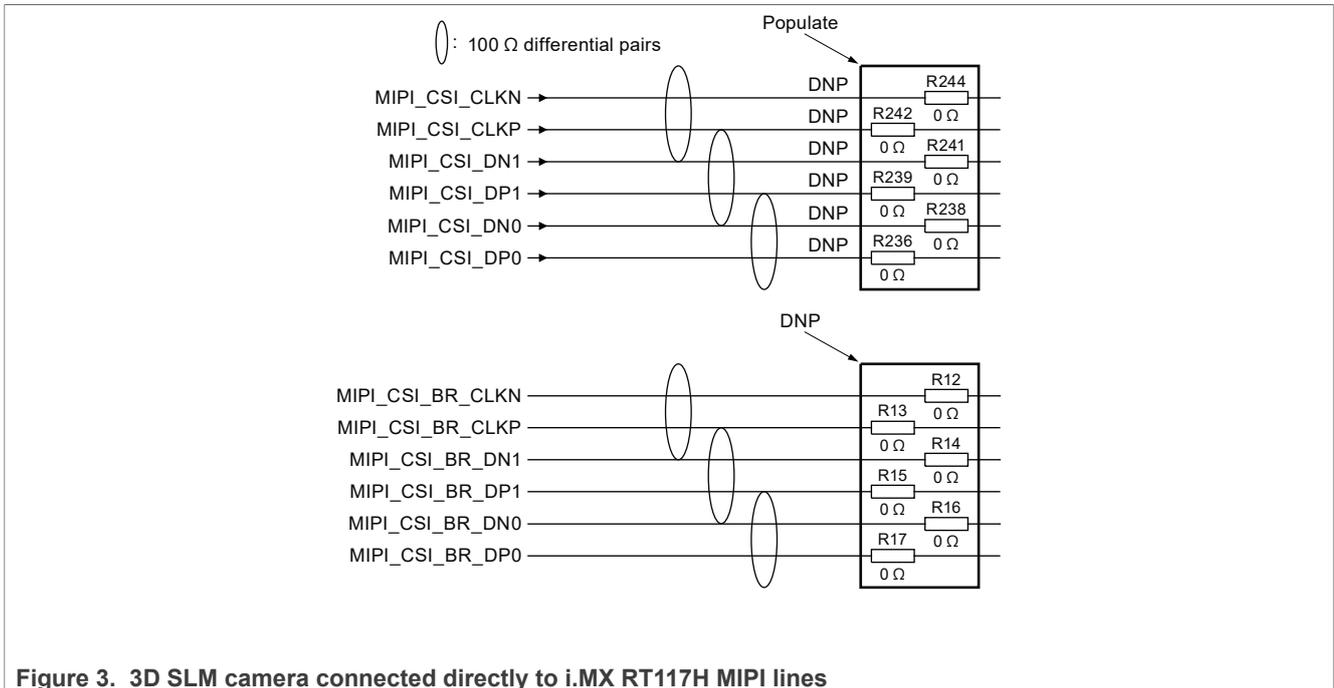

Figure 3. 3D SLM camera connected directly to i.MX RT117H MIPI lines
2. Reroute the 3D SLM camera signals directly to the i.MX RT117H MIPI pins by populating and depopulating the 0 Ω resistors, as shown in Figure 3.